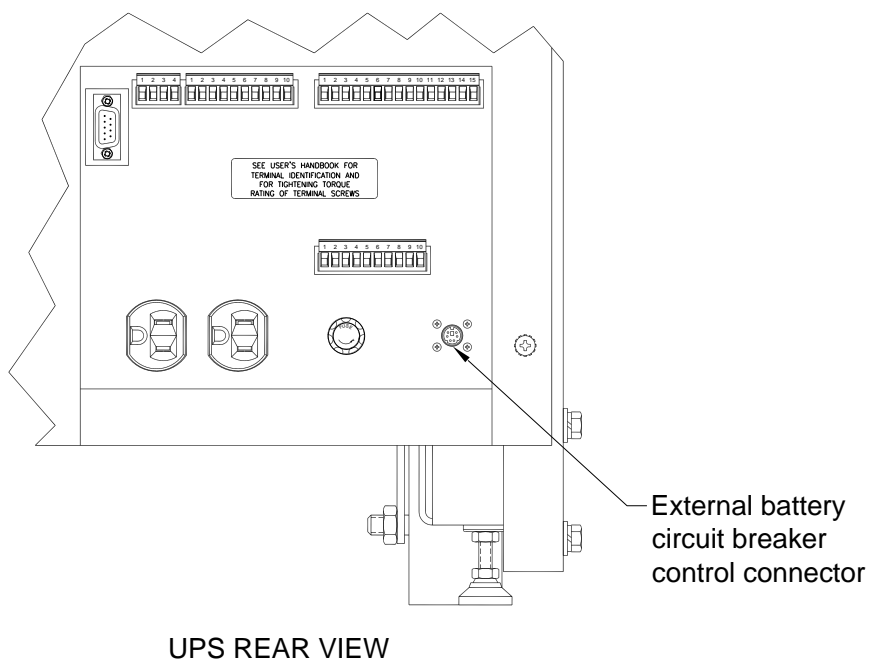

Figure 8 - UPS Connections
6. With the supplied 10 foot long 6 pin Mini-DIN cable (**Staco part number 273-0413**), connect from the left (input) circuit breaker control connector on the rear of the cabinet to the similar connector on the rear of the UPS. See figure 8.